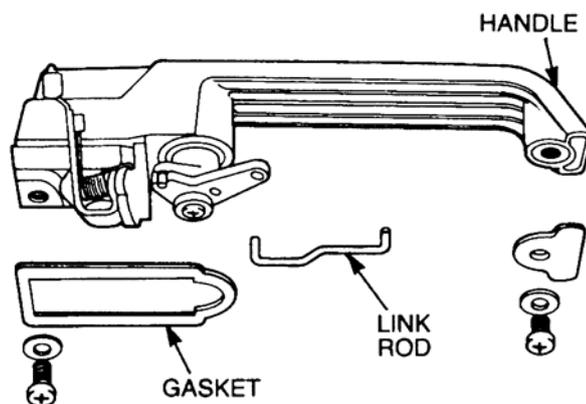

Figure 22 Door Handle Gaskets Installation
- g. Position the new plastic gaskets (refer Figure 22) on the door handle.